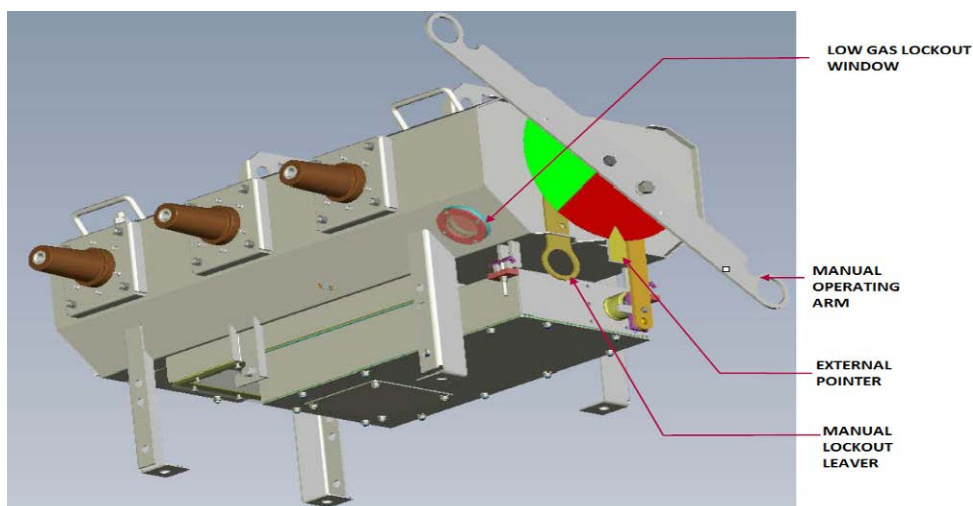

Figure 4: Manual operating arm and manual lockout lever
The enclosed switch is manually operated from ground level using an extended insulated hook stick. To open or close the switch, two (2) operations must be carried out. (Refer to Figure 4)